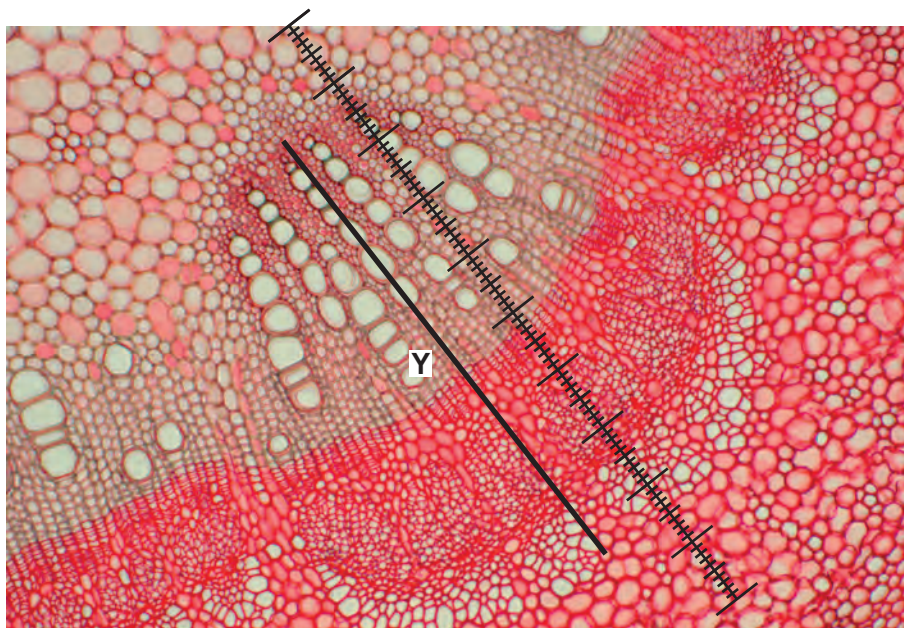

Fig. 2.2
- (b) Fig. 2.2 is a stained transverse section through part of the stem of a different plant species. You are not expected to be familiar with this specimen.
Fig. 2.2 shows a photomicrograph taken using the same microscope with the same lenses as the student.
Use the calibration of the eyepiece graticule division and Fig. 2.2 to calculate the actual length of the vascular bundle, shown by line Y.
- (c) The plant in Fig. 2.2 produces fruit that are an important source of food for many animals in the ecosystem in which they grow.